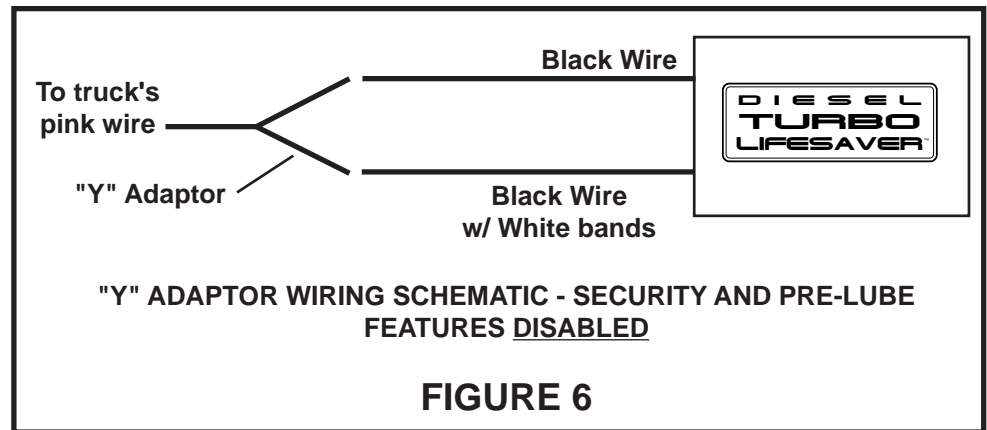

FIGURE 6
- ⇒ Cut black and black with white bands wires of DTLS so that ends of wires are even (see Fig. 6). Install supplied female spade connectors on ends of wires by stripping insulation and crimping connectors on.